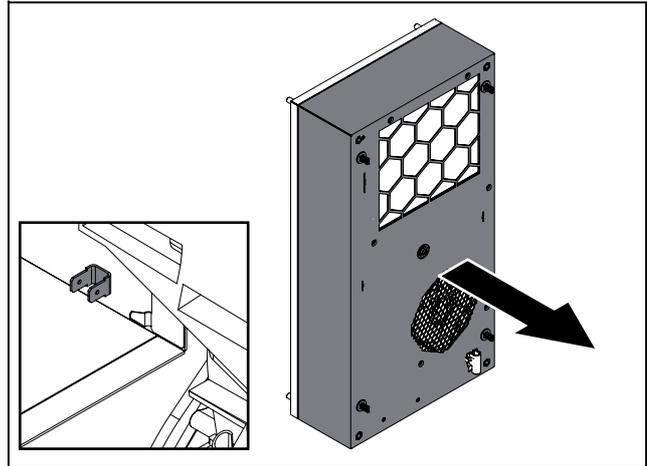

Fig. 61: PE conductor connection (sample illustration)
- Before fully replacing the cover, make sure that the PE conductor is correctly connected to the flat-pin connector on the cover (fig. 61).